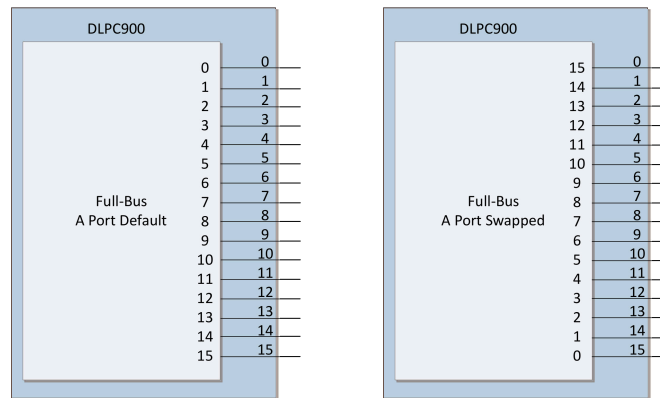

Figure 6-4. Controller to DMD Full-Bus Connections
- (4) The DLPC900 is a Full-Bus DMD signaling interface. Figure 6-4 shows the controller connections for this configuration.
- (5) The pulse duration minimum for any clock rate can be calculated using the following formulas.
Figure 6-4 shows the controller connections for full-bus default or swapped. Refer to the Firmware section of the *DLP® LightCrafter™ Single DLPC900 Evaluation Module (EVM) User's Guide (DLPU101)* or *DLP® LightCrafter™ Dual DLPC900 Evaluation Module (EVM) User's Guide (DLPU102)* for details on how to select the bus swap settings to match the board layout connections.